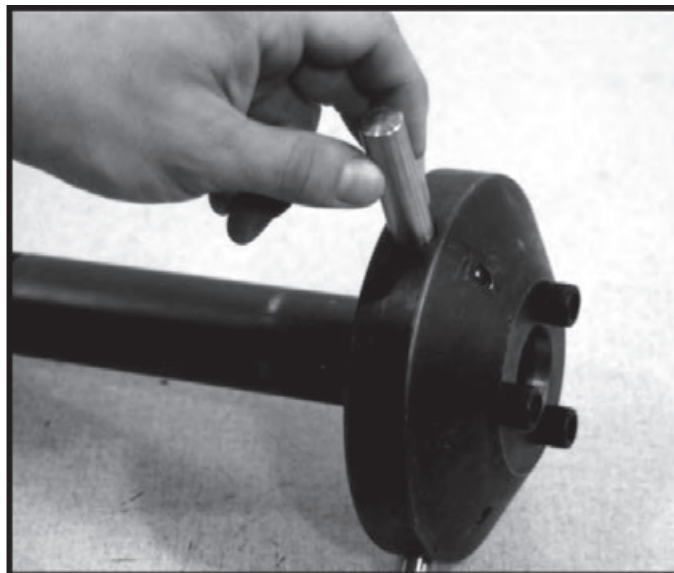

Figure 3-14.
6. Insert the leg set into the adapter. (Figure 3-14)